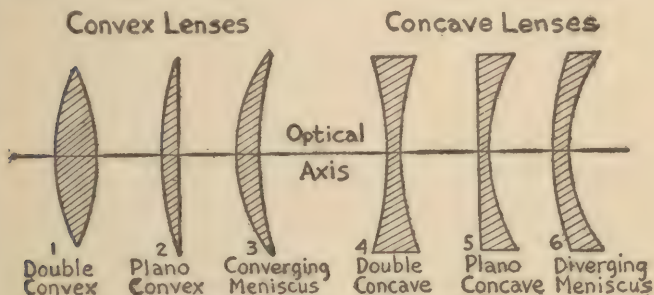

FIG. 4.—TYPES OF LENSES
Various Kinds of Lenses.—Every one is familiar with the most common kind of lens which is known as a *magnifying glass*; this is a *double convex lens* like that of the eye. Besides this there are several other kinds of lenses, all of which are shown in Figure 4. Lenses can be divided into two general groups (a) *convex lenses*, and (b) *concave lenses*. Named in their usual order the various lenses are (1) the
² This is a line drawn through the center of a lens and at right angles to its diameter as shown in Fig. 4.